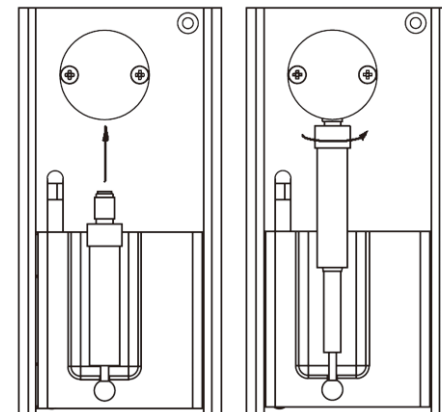

Figure 2-8. Syringe Installation
3. Turn valve coupler fitting in the position shown as Figure 2-8.
2. To install the syringe, do the following (as shown in Figure 2-8)